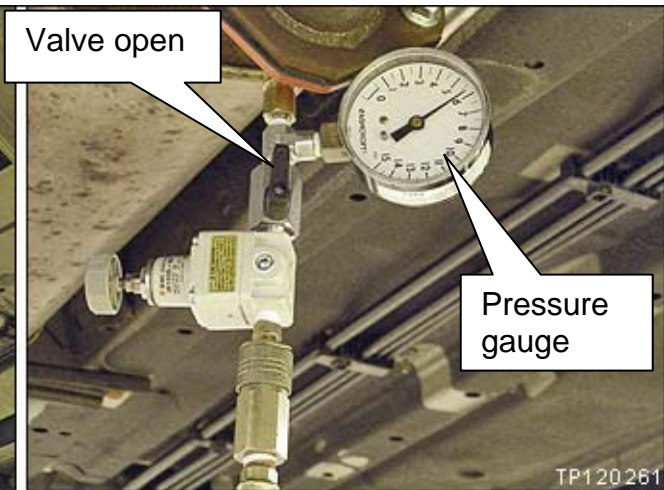

Figure P9b
13. Set the valve on special tool J-50976 to the open position (see Figure P9b).